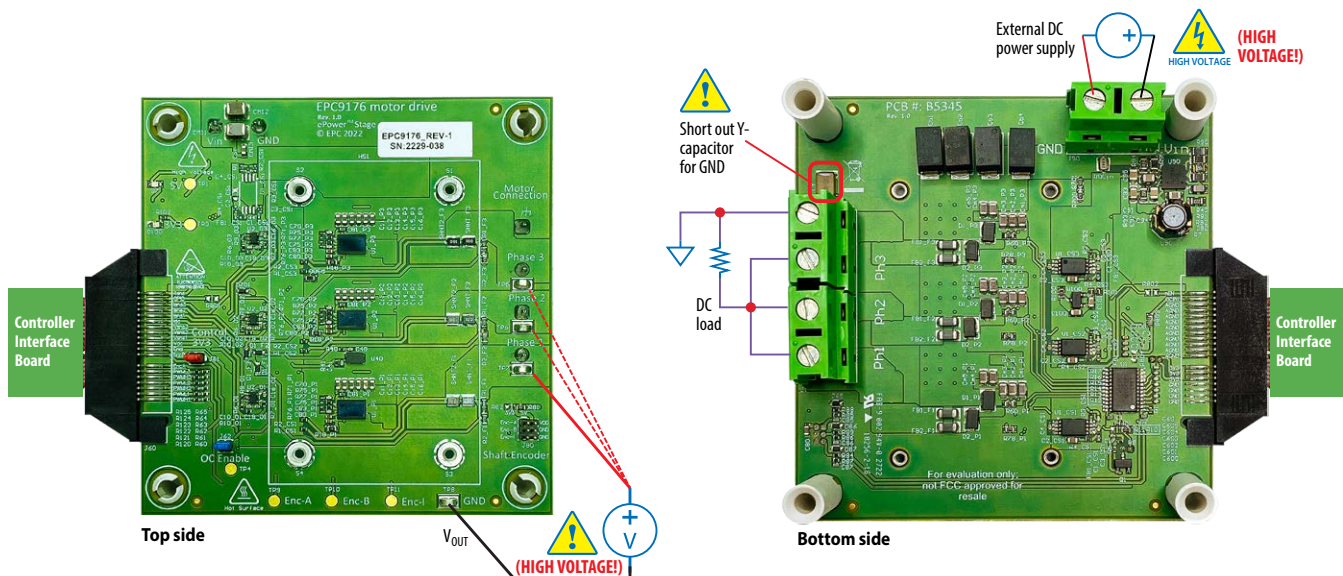

Figure 5: Connection diagram of the EPC9176 configured as a multi-phase converter
The EPC9176 can also be configured as multi-phase synchronous buck converter with either 2 or 3 phase options. When configured as a 2-phase converter, the user can choose any combination of output but should make use of the applicable on-board inductor pad allocations, with appropriate value for the inductor at the chosen operating frequency. **In this configuration it is important to remove the Y-capacitor (CY) and short out the pads with a conductor that can carry the full rated load current.** The earth connection then becomes the ground (GNDP) return as shown in figure 5. The output voltage can be measured using any of the phase voltage test points with respect to the ground (GNDP).
2. Connect the correct motor, whose parameters are programmed into the controller, to the EPC9176 at connector J1 and the DC power supply at connectors J5 and J6 (**Observe correct polarity, there is no inverse polarity protection on board**) and shown in figure 5.